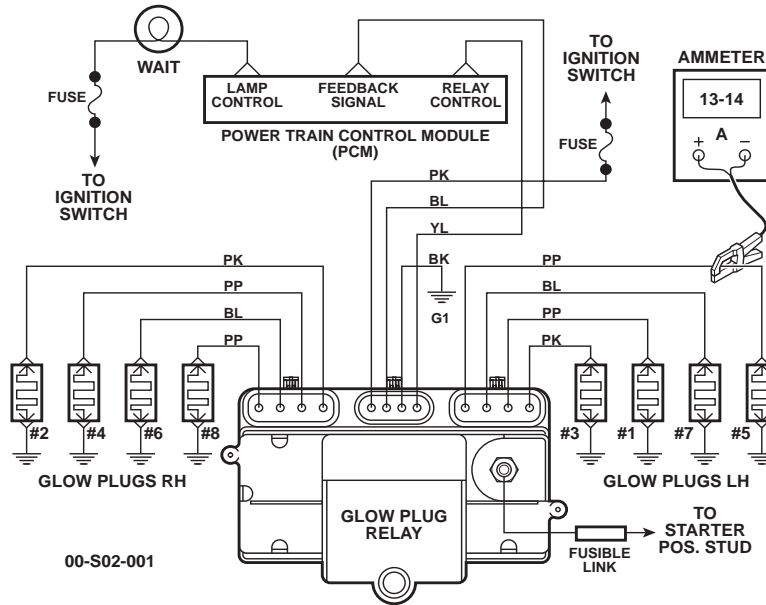

Figure 2-6: Checking Current at Each Glow Plug
4. Check current at each glow plug (Figure 2-6). Place ammeter clamp around glow plug wire. Current should be 13-14 amps.